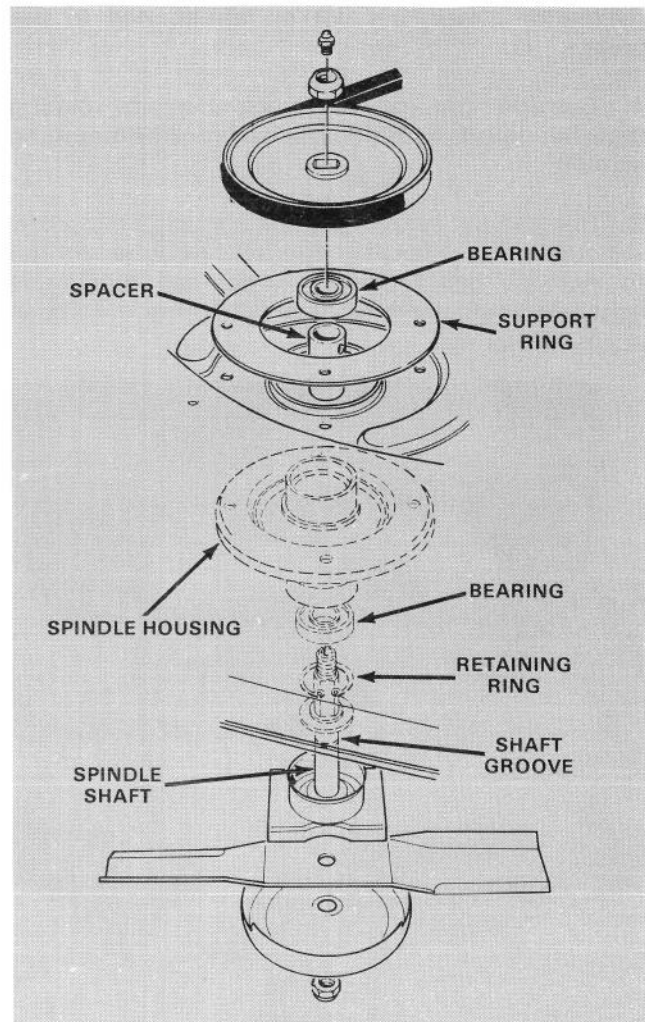

Figure 18
6. Remove retaining ring to remove bottom bearing (Fig. 18).
9. Slide pulley end of spindle assembly through hole in cutting unit. Mount spindle assembly in place with support ring (if applicable), capscrews and nuts (Fig. 18).